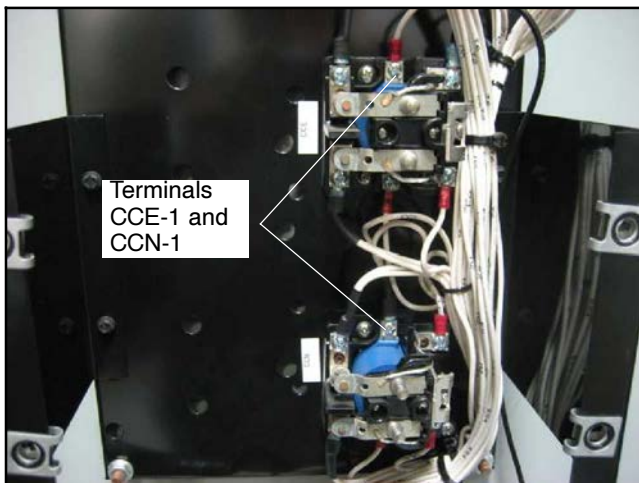
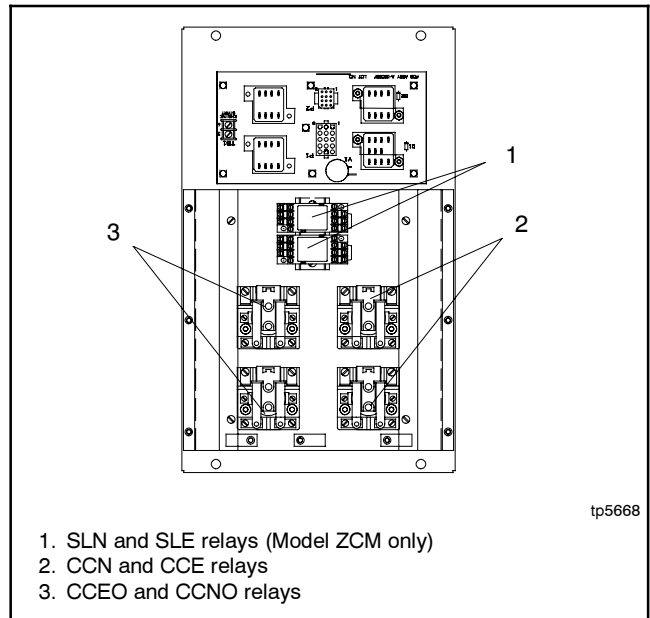

Figure 40 Disconnect Lead 20 from CCN-1, CCE-1, CCEO-1 (not shown) and CCNO-1 (not shown)
Figure 41 Interface Panel Assembly Relays
34. On the interface panel assembly, disconnect lead 20 from terminal 1 on the four relays CCN, CCE, CCEO, and CCNO. See Figure 40 and Figure 41. Also see the wiring diagrams at the end of this document.
Note: Relays CCEO and CCNO are not shown in Figure 40.
35. On Model ZCM switches, also disconnect lead 20 from terminal 1 on the two relays SLN and SLE. See Figure 41.